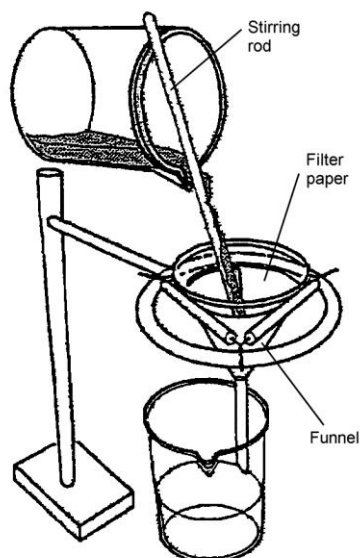

FIGURE 4. Filtering
3. Filter the solution by pouring it through filter paper that catches any remaining precipitates, as shown in FIGURE 4.